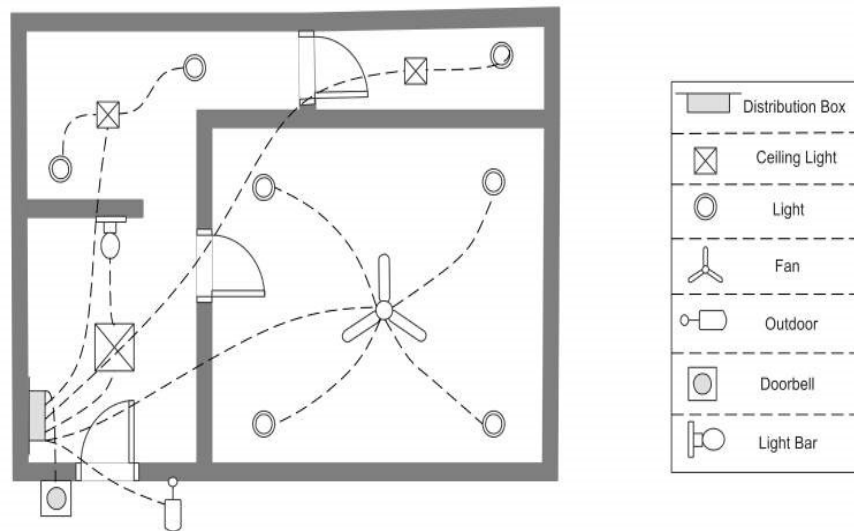

Figure B3(c) / Rajah B3(c)
- (c) The taking off list is the process of analyzing technical drawings and specifications to identify the elements. The list should include each building element from the smallest to the largest component. Based on Figure B3(c) below, illustrate a taking off for that electrical system.